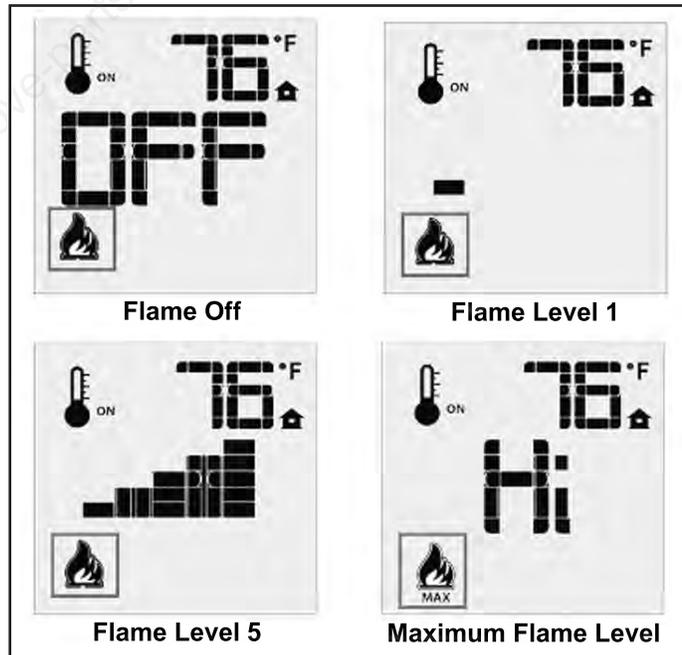

Figure 14: Remote Control's Flame Levels.
The Proflame GTMF has six (6) flame levels. With the system on, and the flame level at the maximum in the appliance, pressing the Down Arrow Key once will reduce the flame height by one step until the flame is turned off. The Up Arrow Key will increase the flame height each time it is pressed. If the Up Arrow Key is pressed while the system is on but the flame is off, the flame will come on in the high position (refer to Figure 14). A single “beep” will confirm reception of the command.